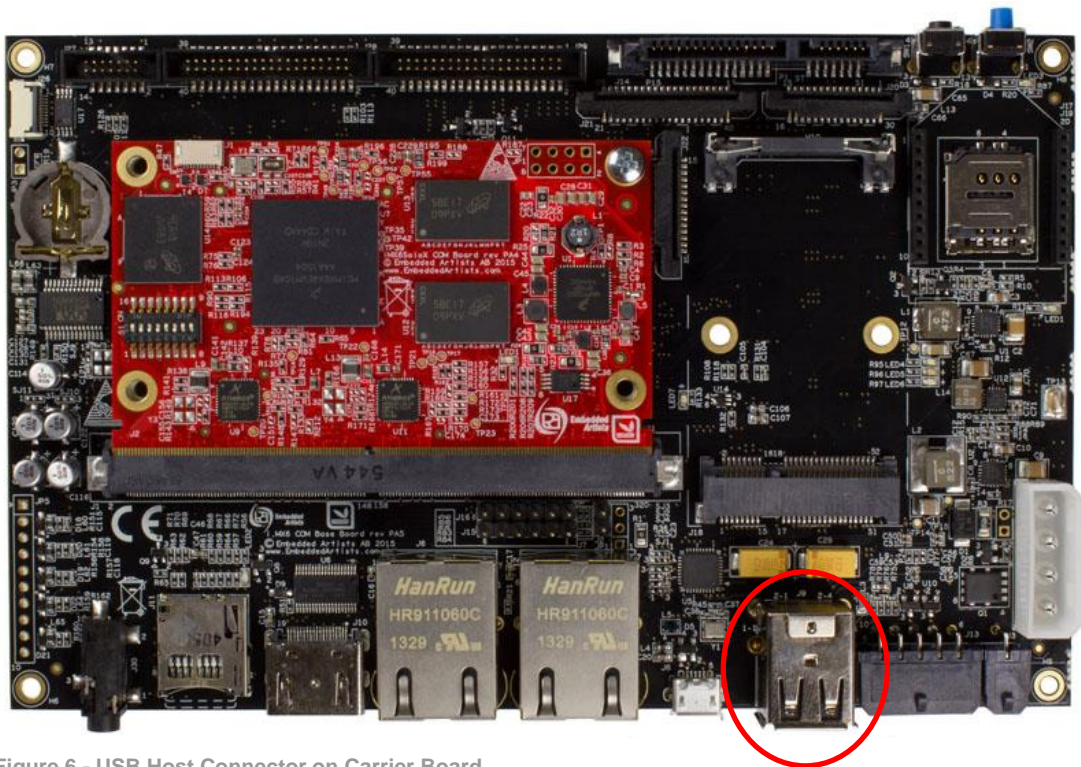

Figure 6 - USB Host Connector on Carrier Board
U-boot supports loading files from many sources (network, SD card, USB memory stick), but this section will only describe how to load from a USB memory stick. Copy your files to a USB memory stick and then insert this into the USB Host Connector on the Carrier Board, see Figure 6.
2. Boot into Linux and then insert this into the USB Host Connector on the Carrier Board, see Figure 6. You will see output in the console as below.